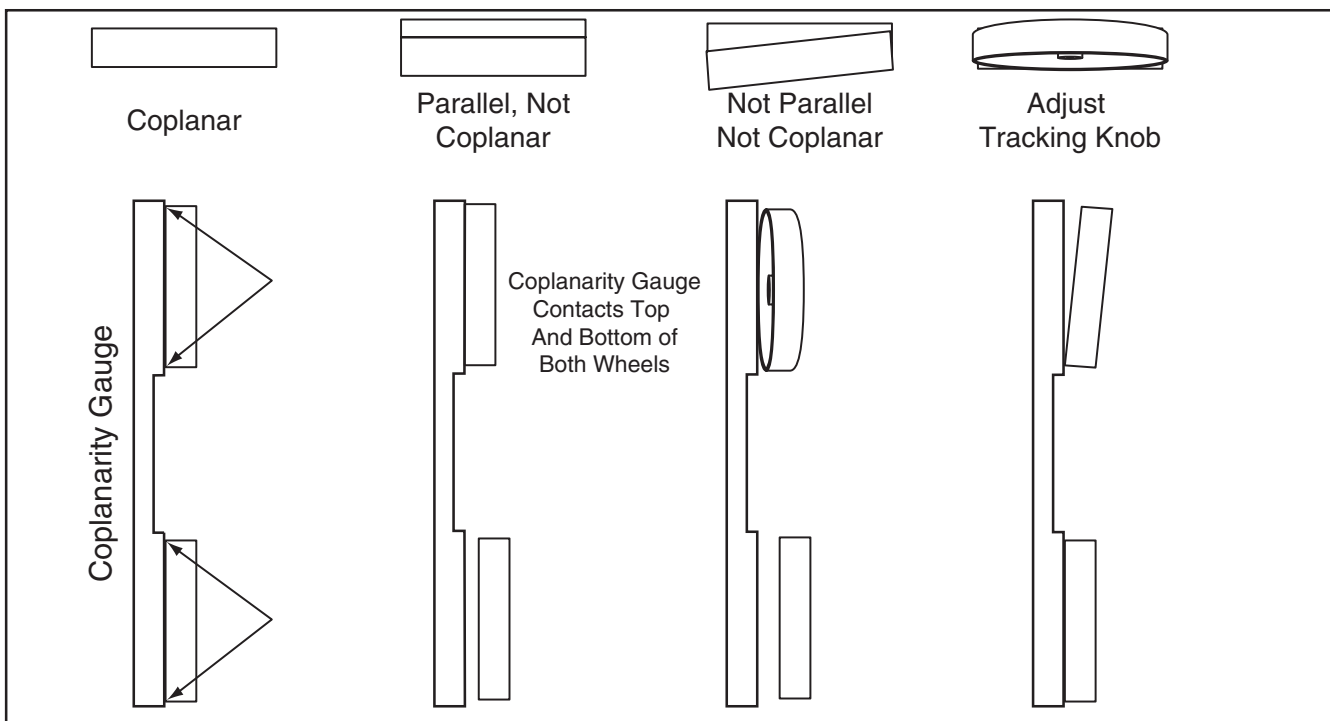

Figure 87. Coplanarity diagram.
8. **Figure 87** shows the positions of the wheels when coplanar. When your wheels are coplanar, readjust the guide blocks and rear support bearings, and replace the wheel covers.